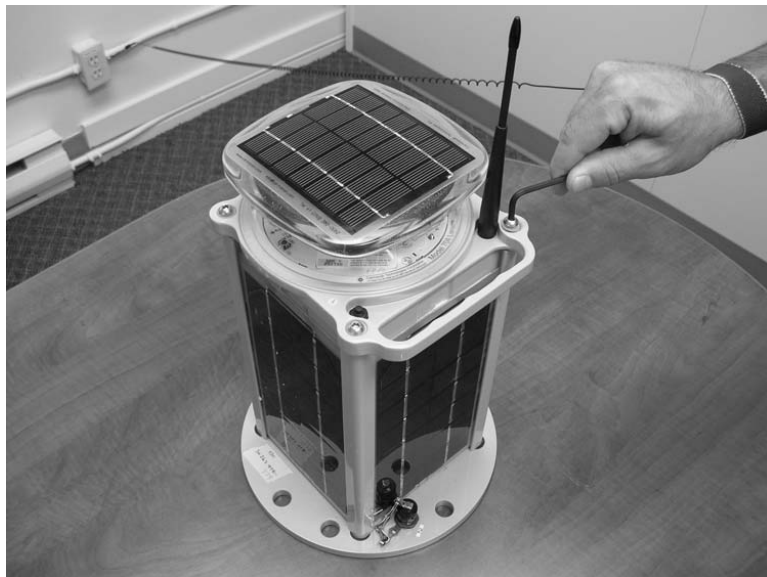

Figure 11-1: Removing the Top Plate
2. Remove the top plate screws and their nylon washers using the hex key supplied; see Figure 11-1.